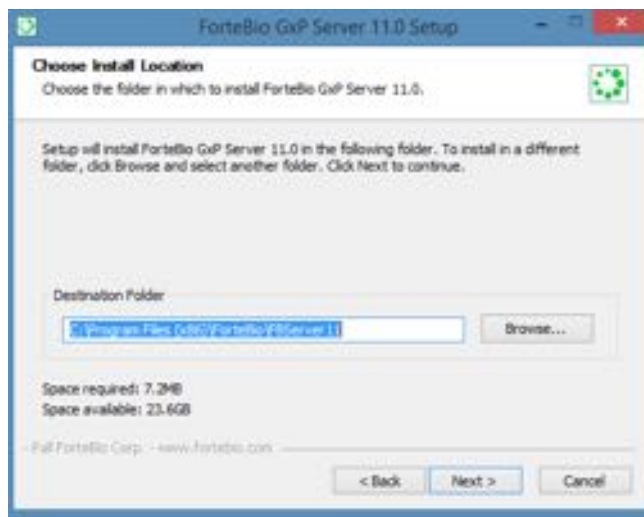

Figure 4-27: Choose Install Location
5. Click **Next** to display the Choose Install Location dialog box (Figure 4-27).